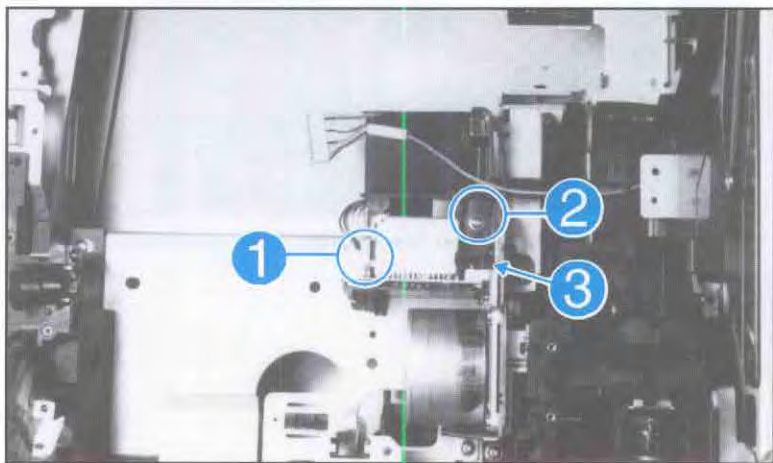

Figure 6-34. Main Motor Drive Train (continued)
8. Unplug the (1) connector on the Main Motor PCA (see Figure 6-34, callout 1).
9. Remove the (1) screw for the high voltage cable guide tray (see Figure 6-34, callout 2). Route the cables clear to prevent damage.
10. Remove the (1) screw securing the Main Motor PCA (see Figure 6-34, callout 3).